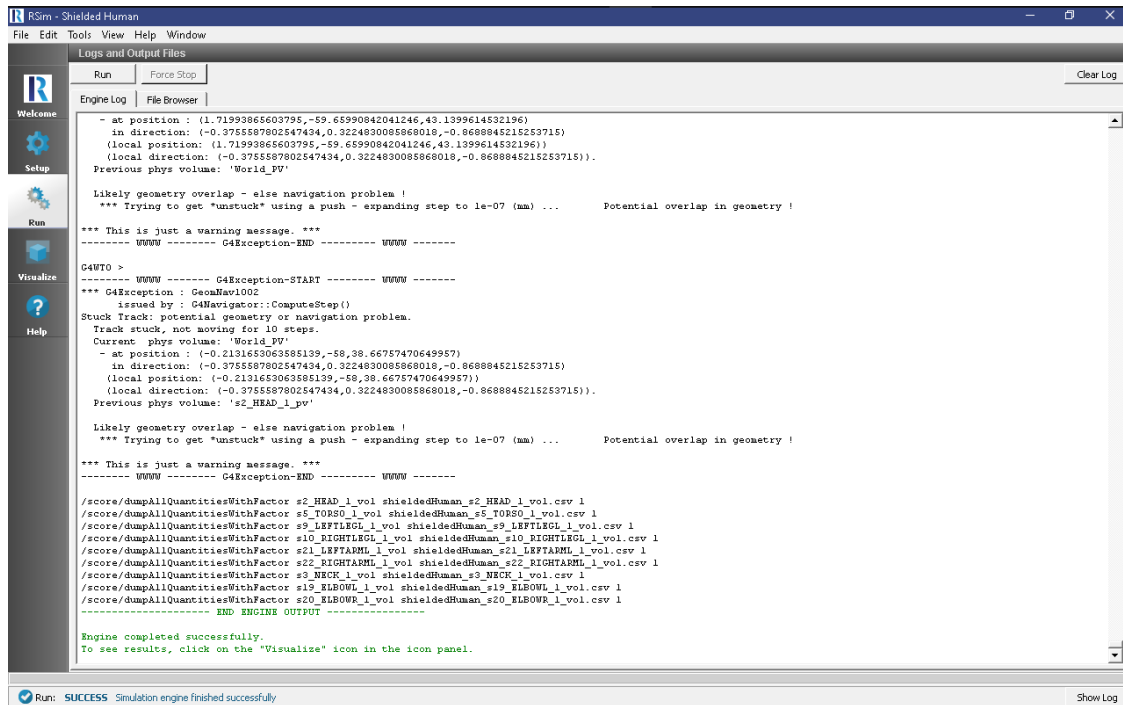

Fig. 2.29: The Run Window at the end of execution.
- To run the file, click on the *Run* button in the upper left corner of the *Logs and Output Files* pane. You will see the output of the run in the right pane. The run has completed when you see the output, “Engine completed successfully.” This is shown in Fig. 2.29.